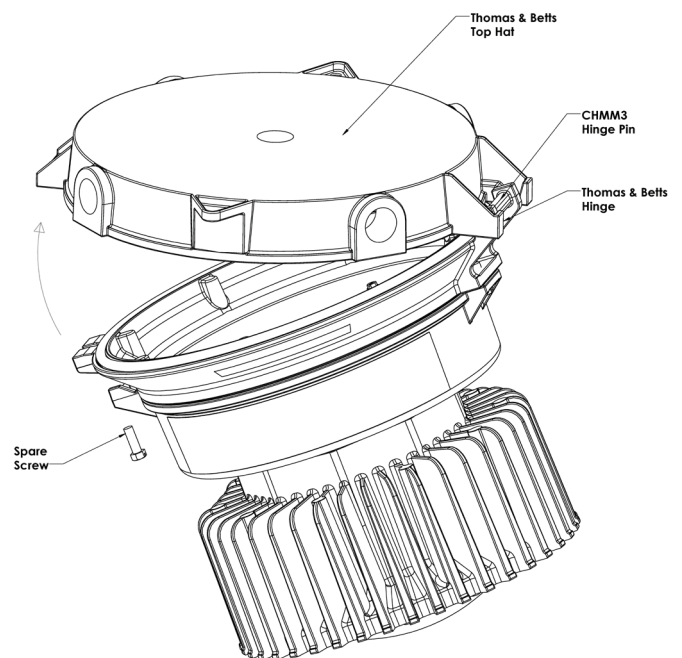

Figure 2
6. Hang the assembled luminaire and adapter from the Thomas & Betts top hat by capturing the adapter hinge pin in the Thomas & Betts top hat hinge, as shown in Figure 2.